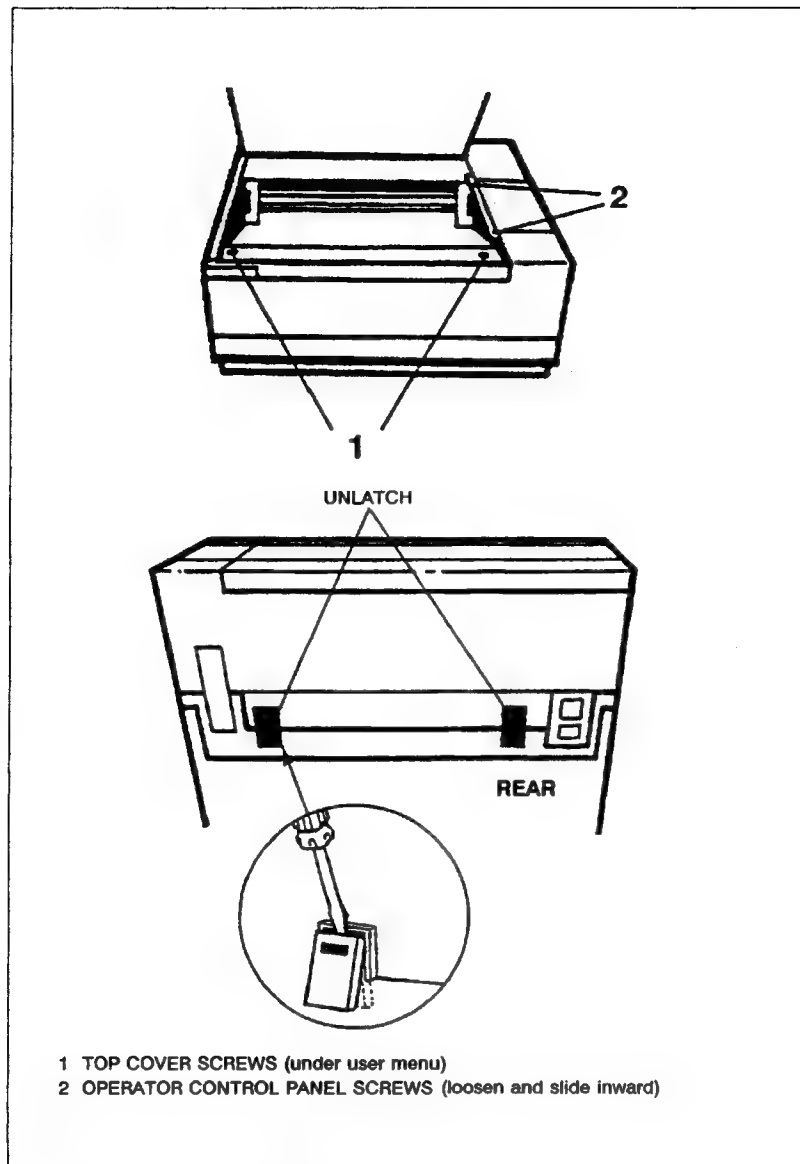

Figure 6-2. HP 2562C 2563A/B/C Top Cover
- b. Set the printer's ON/OFF switch to the OFF (0) position and disconnect the input power cable.
- c. Open the printer's top access door. Using a #2 Pozidrive screwdriver, loosen the two captive screws recessed below the upper front edge of the printer (see Figure 6-2, item 1). These screws are located under the top flap of the user menu.
- d. A ribbon cable connects the printer's control panel to the top cover. Remove the control panel from the top cover by loosening the two pozidrive screws securing panel to the cover. Slide the control panel toward the center of the printer approximately one-half inch to separate the control panel from the top cover (see Figure 6-2, item 2).
- e. Using a flat blade screwdriver, unlatch the two top cover latches securing the top cover at the rear of the printer. On printers with a grey locking tab, push the grey tab up while prying downward and out on the top of the black part of the latch to release (see Figure 6-2).